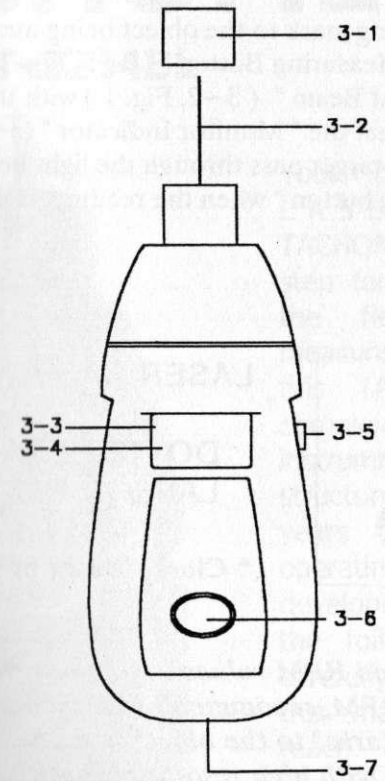

Fig. 1
Apply a reflecting mark to the object being measured. Depress the " Measuring Button " (3-5, Fig. 1) & align the " Laser Light Beam " (3-2, Fig. 1) with the applied target. Verify that the " Monitor Indicator " (3-3, Fig. 1) lights when the target pass through the light beam. Release the " Measuring button " when the reading stabilizes (about 2 seconds).
- a) *First push the "Memory Call Button" (3-6, Fig. 1)* – To display the last value (" LA " and the " last value " will be displayed alternately).
- 2) Slide the " Battery Cover " (3-7, Fig 1) away from the meter and remove the batteries